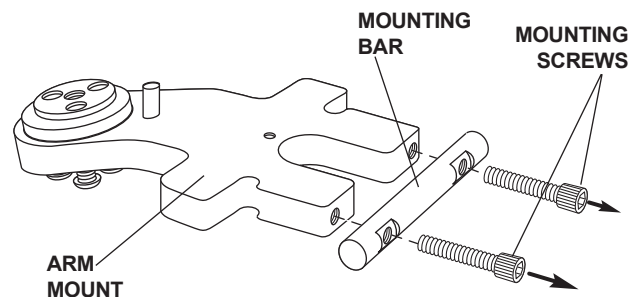

FIGURE 6
1. Remove the arm mount from the shipping carton. Disassemble the mounting bar from the mount by removing the two mounting screws (see Figure 6).